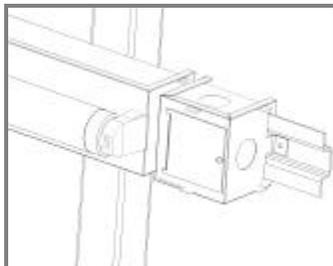

Figure 7
4. The Hard Wire Module is installed on the rail in the same manner as each individual module, **Figures 7, 8**.